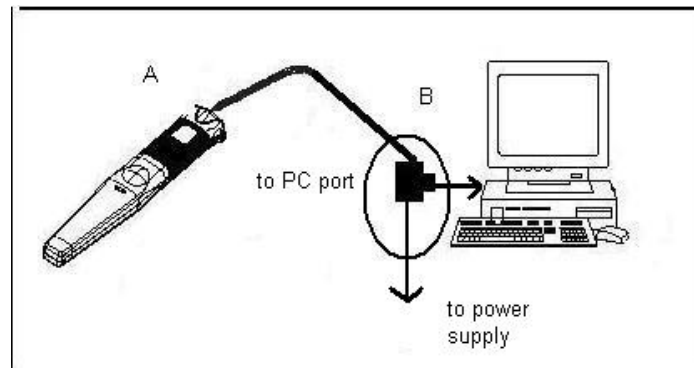

Figure 1. Connect to Cable and Power
- Plug one end of the 12V DC power adapter into the power port on the side of the RS-232 connector that is plugged into the host PC port. (See Figure 1.)